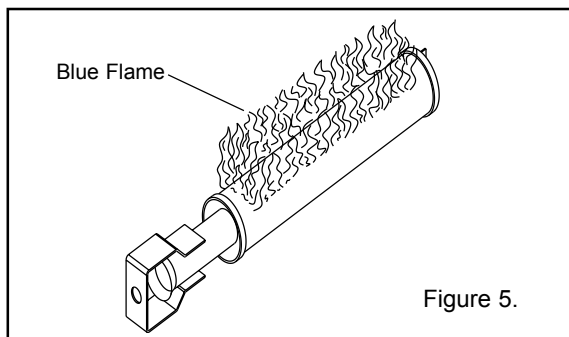

Figure 5.
2. Visually inspect the main burner and the pilot burner flame. The normal color of the flame is blue. When flame appears yellow, burners should be inspected and cleaned; see Figure 5.